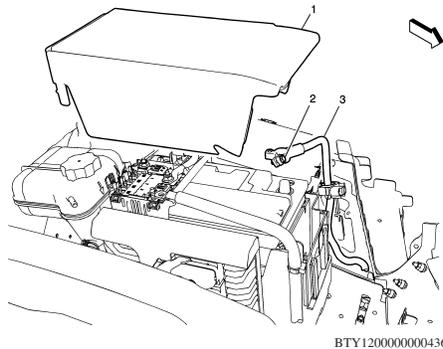

Fig. 1 Battery ground cable disconnection
5. Remove battery cover (1), **Fig. 1**.
6. Loosen battery ground cable fastener (2), and disconnect ground cable (3) from battery, **Fig. 1**.
8. Connect battery ground cable (3) to battery, **Fig. 1**. **Torque** ground cable fastener (2) to 106 inch lbs.
9. Install battery cover (1), **Fig. 1**.